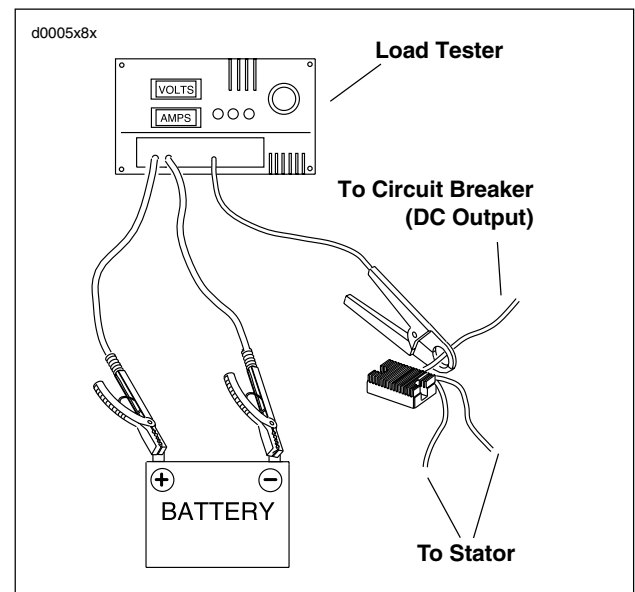

Figure 7-19. Current and Voltage Output Test
1. See Figure 7-19. Connect load tester.
1. See Figure 7-19. After removing the load, read the load tester voltage meter.